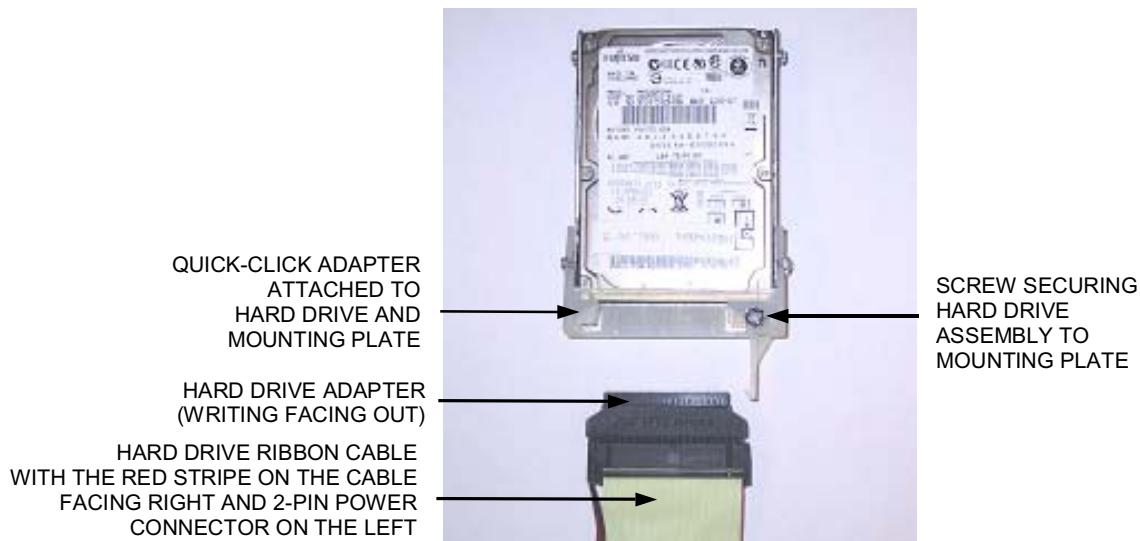

FIGURE 2 - QUICK-CLICK HARD DRIVE ASSEMBLY CONNECTION
4. Disconnect the hard drive adapter, with the attached ribbon cable, from the hard drive. See Figure 2. Remove the screw (through the quick-click adapter) securing the hard drive to the mounting plate. Remove the hard drive and the attached bracket from the mounting plate by sliding the assembly up and off the plate.
1. Attach the hard drive ribbon cable in the game to the new hard drive by lining up the left side of the hard drive adapter with the pins on the hard drive, and then carefully inserting it all the way into the quick-click adapter (see Figure 2 for proper orientation). Make sure that the writing on the adapter is facing out, and that the white stripe on the cable is on the left.
2. Slide the new hard drive assembly onto its mounting plate and secure in place with 1 screw (see Figure 2).